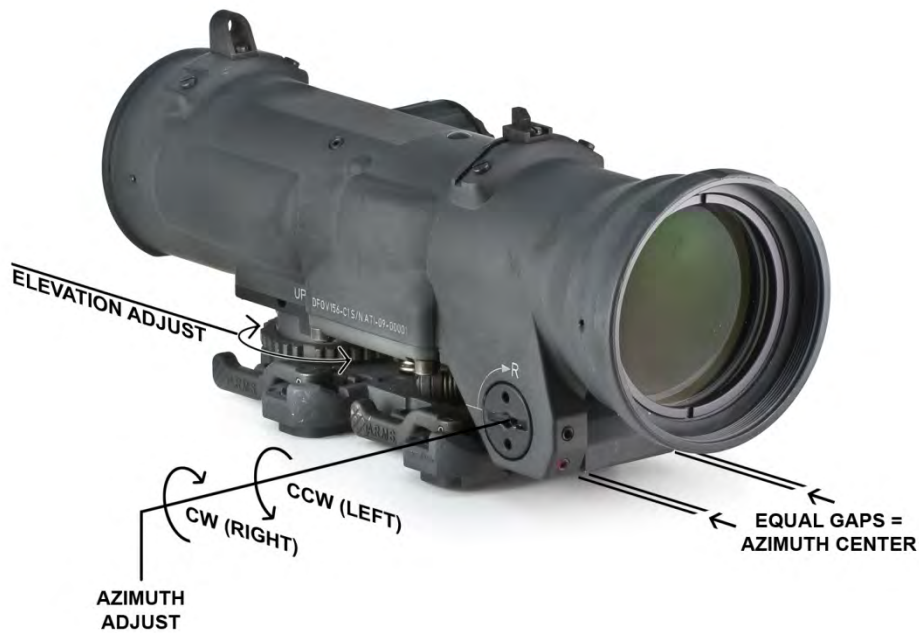

Figure 3-1. Azimuth (Windage) Zeroing Adjustment
3.5 Zeroing (Figure 3-1, 3-2) The process for zeroing is depicted in the following illustrations and descriptions.